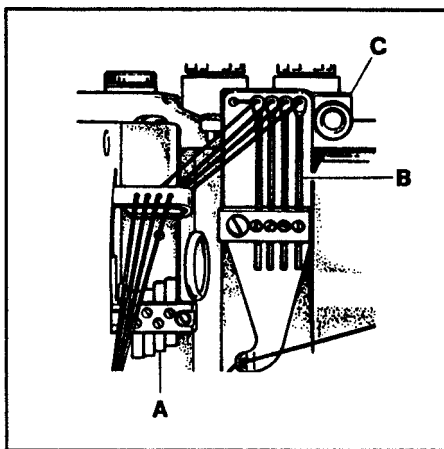

FIG. 32
Four needle thread strike-off pins (A, Fig. 32) are provided for independent needle thread control. Level the take-ups to the height of the thread in the needle lever eyelet at its lowest position. Raise the first take-up (nearest the operator) 1/8" (3.2mm) and the second take-up 1/16" (1.6mm). Further adjustment may be necessary to obtain proper needle loop size so skipped stitches may be avoided.
Set the four frame needle thread eyelets (B, Fig. 32) eye with the eyelets in holder (C). Adjust as necessary so the needle thread loops around the looper will remain firm and not seek random positions when the needle bar descends.